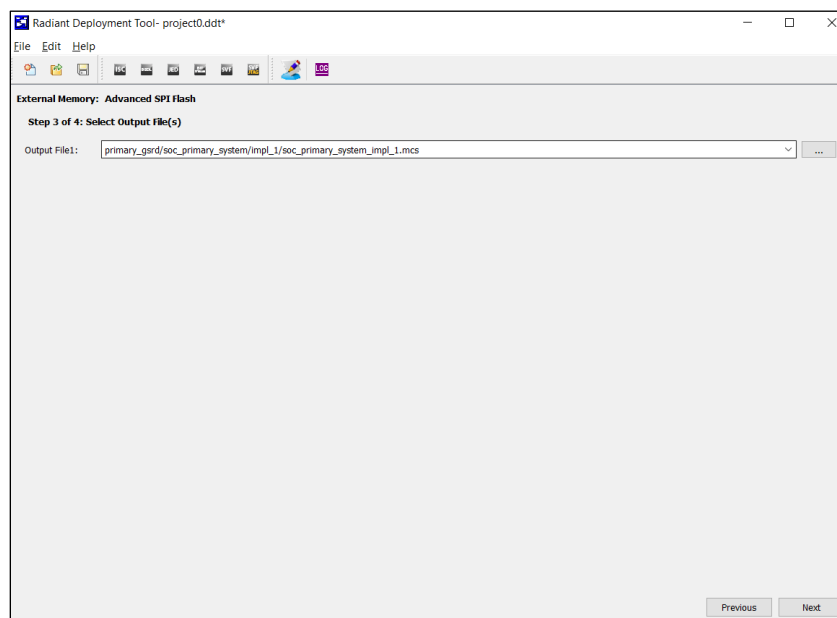

Figure 8.66. External Memory Step 3 of 4: Select Output File(s)
8. In Step 3 of 4: Select the Output File(s) as shown in Figure 8.66. Choose the location on your machine to generate an .mcs file.